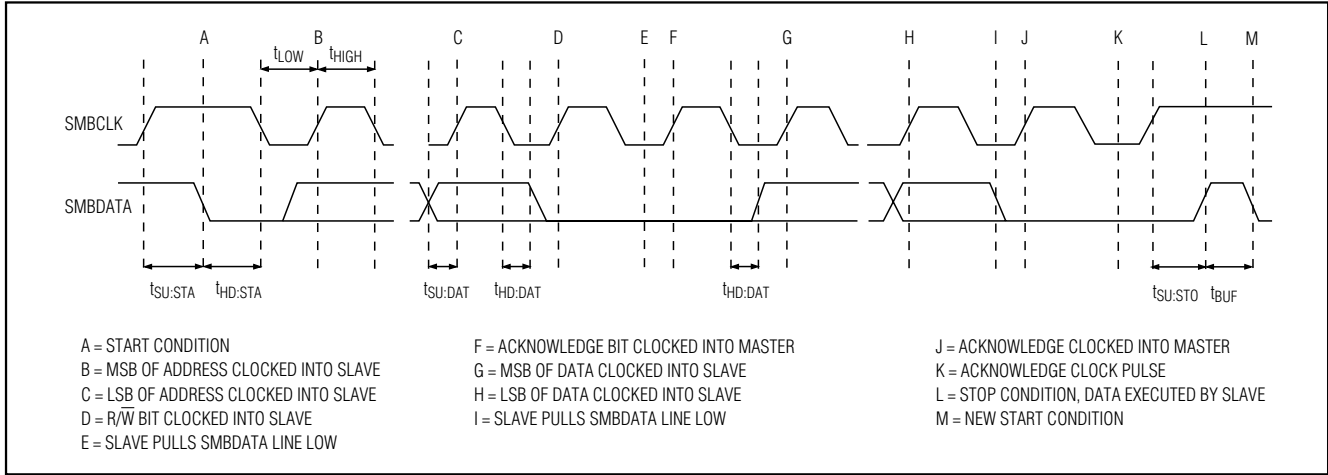

Figure 15. SMBus Write Timing
communicating with the slave, the master issues a STOP condition (P), which is low-to-high transition on CRF/SDA, while CTL/SCL is high. The bus is then free for another transmission. Figures 15 and 16 show the timing diagram for signals on the 2-wire interface. The address-byte, command-byte, and data-byte are transmitted between the START and STOP conditions. The CRF/SDA state is allowed to change only while CTL/SCL is low, except for the START and STOP conditions. Data is transmitted in 8-bit words and is sampled on the rising edge of CTL/SCL. Nine clock cycles are required to transfer each byte in or out of the MAX1996A since either the master or the slave acknowledges the receipt of the correct byte during the ninth clock. If the MAX1996A receives its correct slave address followed by $R/\bar{W} = 0$, it expects to receive 1 or 2 bytes of information (depending on the protocol). If